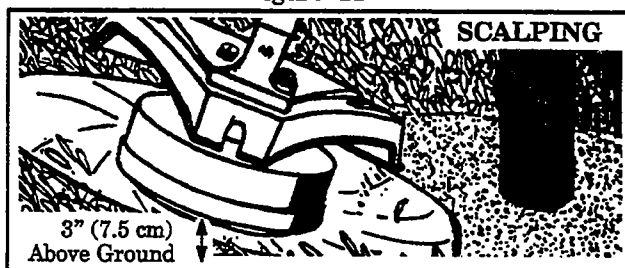

Figure 12
2. **SCALPING** - Figure 12 . The scalping technique removes unwanted vegetation. Hold the bottom of the trimmer head about 3" (7.5 cm) above the ground and at an angle. Allow the tip of the line to strike ground around trees, posts, monuments, etc. *This technique increases line wear.*